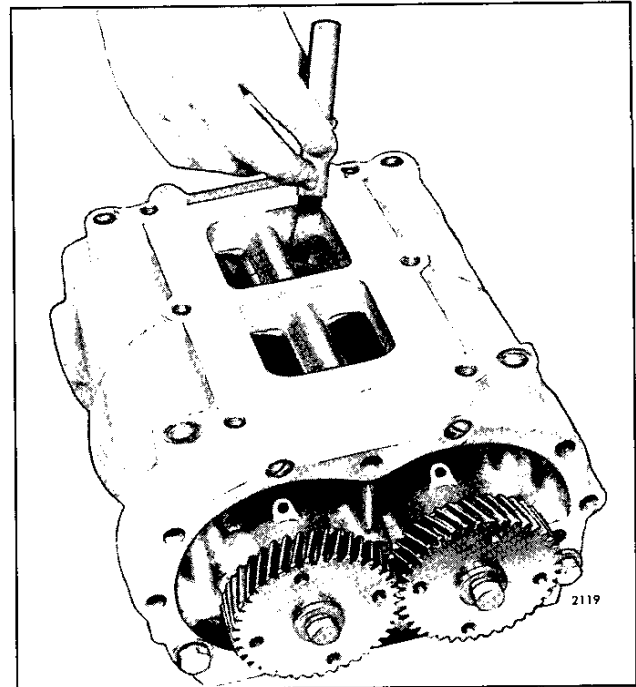

Fig. 19 - Measuring Rotor Lobe to End Plate Clearance
- c. Measure the clearance between the end of the rotor and the blower end plate (Fig. 19). Refer to Table 1 for the required minimum clearances. Push and hold the rotor toward the